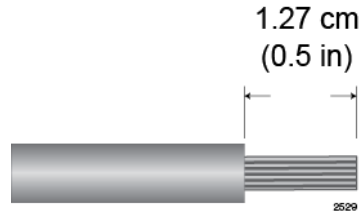

Figure 62. Stripping the Power Wires
1. Prepare adequate lengths of two stranded 8 AWG power wires by stripping them as shown in Figure 62 on page 94.